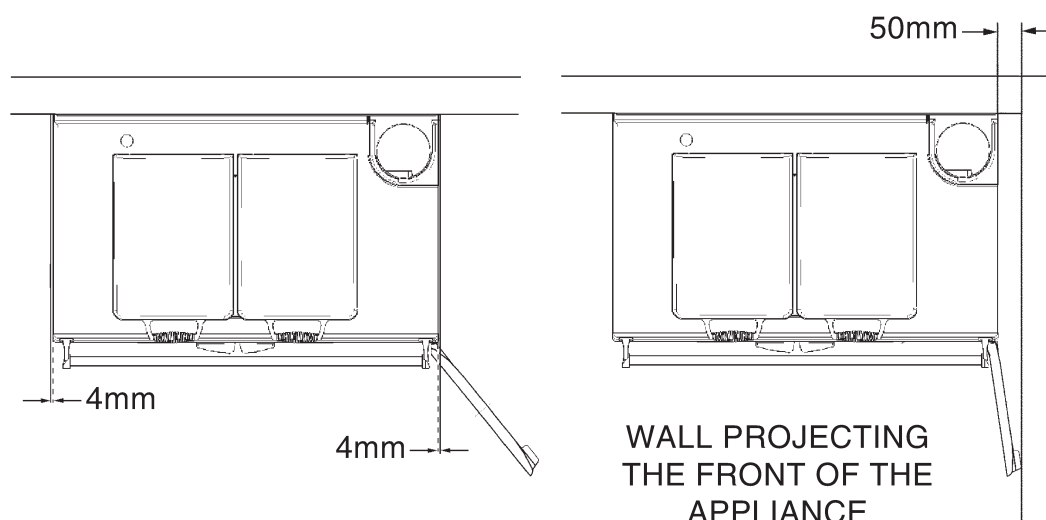

Fig. 1C
**SHOULD THE WALL PROJECT BEYOND THE FRONT OF THE APPLIANCE , IT MUST BE INCREASED TO 50mm, SEE FIG. 1C. To allow oven door to open enough to change oven and shelf positions.**
**SHOULD THE WALL PROJECT BEYOND THE FRONT OF THE APPLIANCE, IT MUST BE INCREASED TO 50mm, SEE FIG. 1C. To allow oven door to open enough to change oven and shelf positions.**